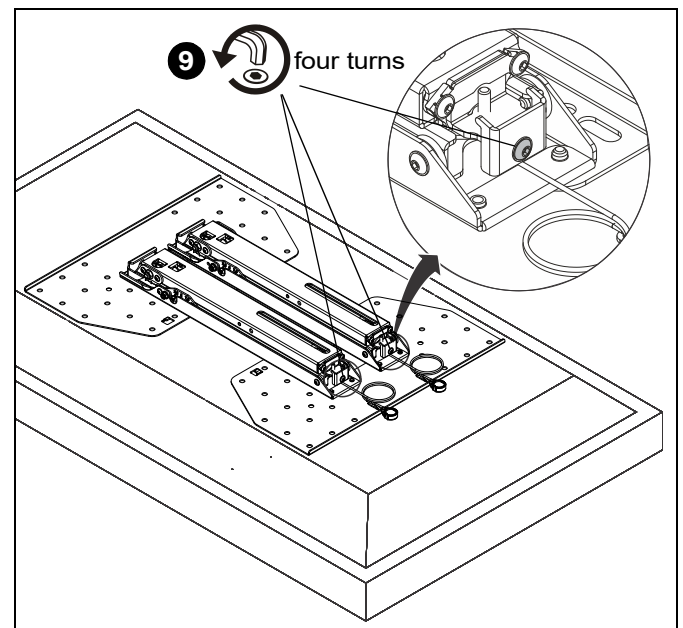

Figure 23
- Loosen two button head cap screws at bottom of each interface bracket (A and B) at least four turns. (See Figure 23)